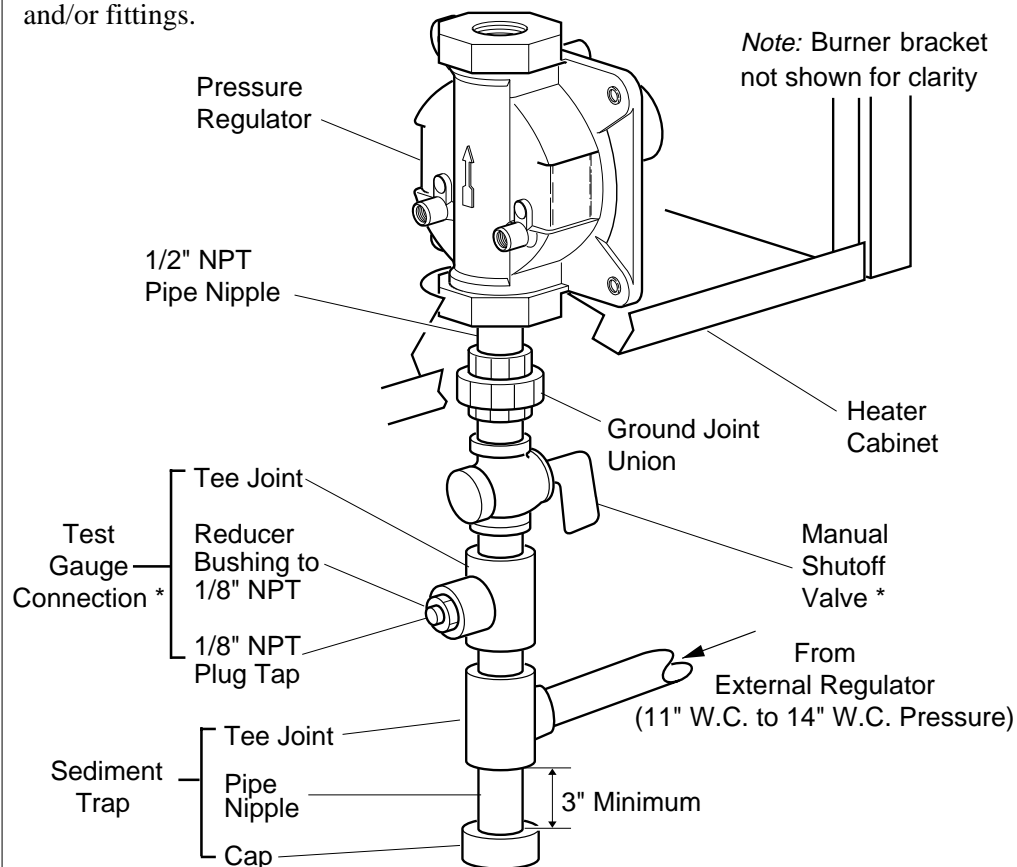

Figure 13 - Gas Connection
Installation must include a manual shutoff valve, union, and plugged 1/8" NPT tap. Locate NPT tap within reach for test gauge hook up. NPT tap must be upstream from heater (see Figure 13, page 15).
Install sediment trap in supply line as shown in Figure 13, page 15. Locate sediment trap where it is within reach for cleaning. Locate sediment trap where trapped matter is not likely to freeze. A sediment trap traps moisture and contaminants. This keeps them from going into heater controls. If sediment trap is not installed or is installed wrong, heater may not run properly.
3. Check all joints from propane supply tank to manual shutoff valve (see Figure 13). Apply mixture of liquid soap and water to gas joints. Bubbles forming show a leak.